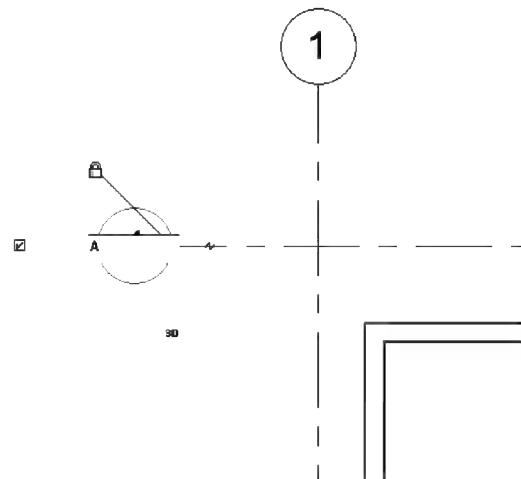

FIGURE 2-1.7 Grid edit
14. Type **A** and press *Enter* on the keyboard (Figure 2-1.7).